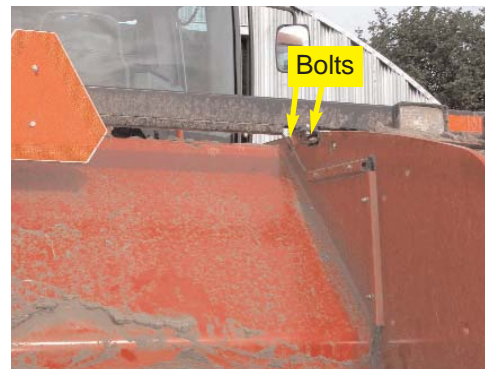

Figure 2a. Mounting location.
- a. Locate the two bolts that hold the light bar on the right rear fender. (Figure 2a.)